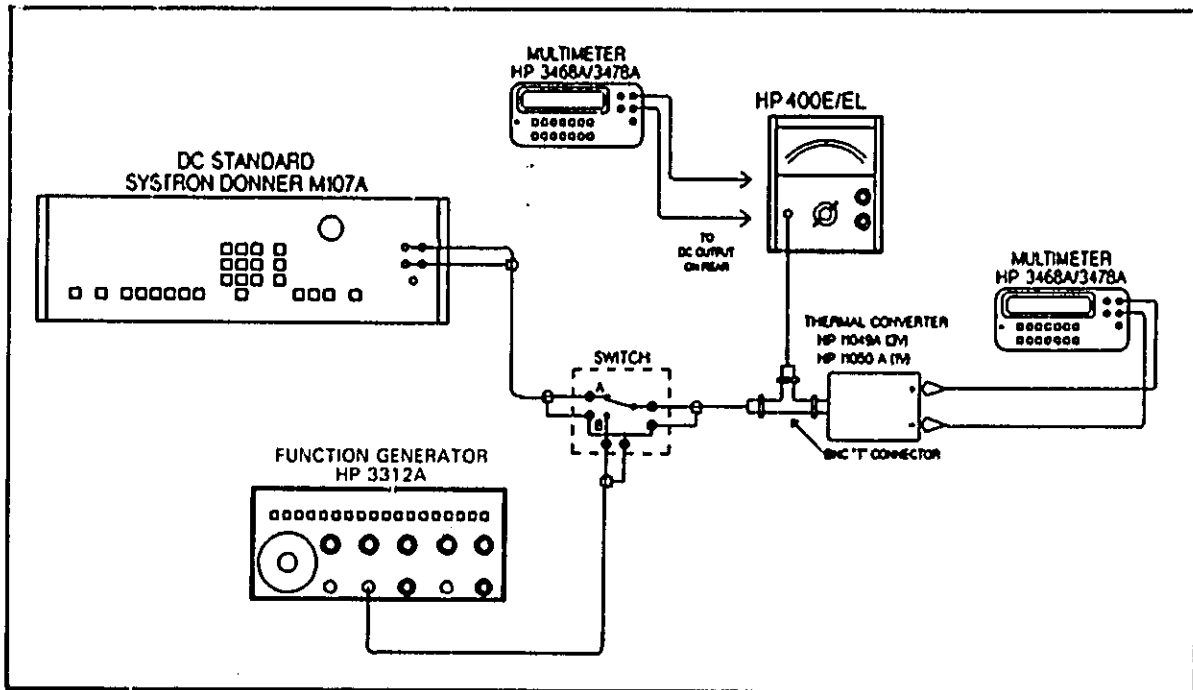

Figure 5-2. Frequency Response (and Optional Accuracy) Checks.
5-19. Refer to Figure 5-2. Use the recommended dc standard, function generator (ie., oscillator), digital multimeters, and thermal converters to check the HP 400E/EL accuracy on the 1V and 3V ranges. Do the following:
- b. Except for the HP 400E/EL (it will be connected later), connect the equipment as shown in Figure 5-2. Use the 3V Thermal Converter (HP 11049A) in the test setup.
- e. Set the HP 400E/EL to the 3V range. Connect it to the "T" connector as shown in Figure 5-2.
5-43. Refer to Figure 5-2. Use the recommended dc standard, function generator (ie., oscillator), digital multimeters, and thermal converters to calibrate the HP 400E/EL. A 0.45V thermal converter (HP 11051A) is also needed for calibration. Do the following:
- b. Except for the HP 400E/EL (it will be connected later), connect the equipment as shown in Figure 5-2. Use the 1V Thermal Converter (HP 11050A) in the test setup.